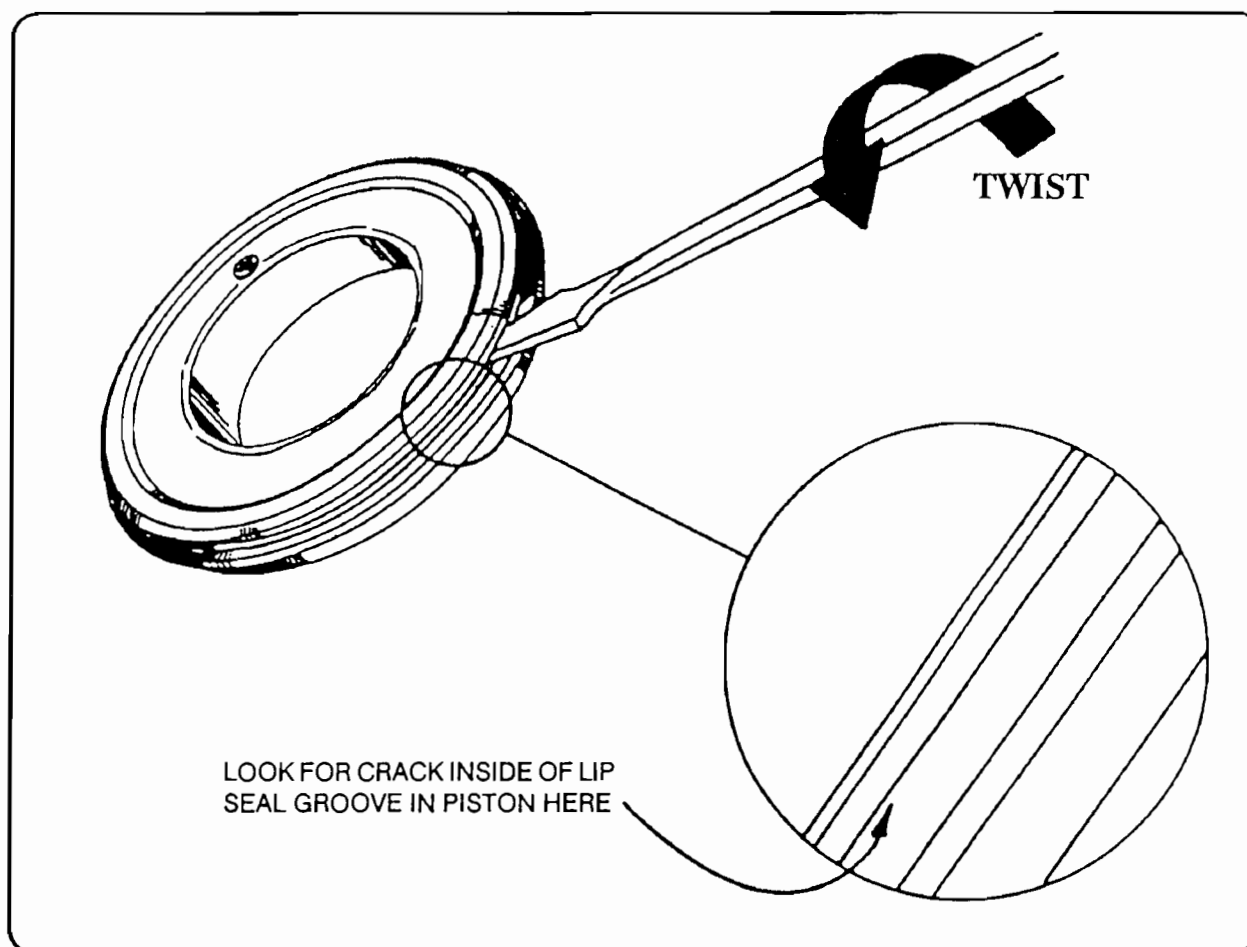

Figure 33
- CAUSE: The cause may be cracked direct clutch piston. For procedure to check the piston, (see figure 33).